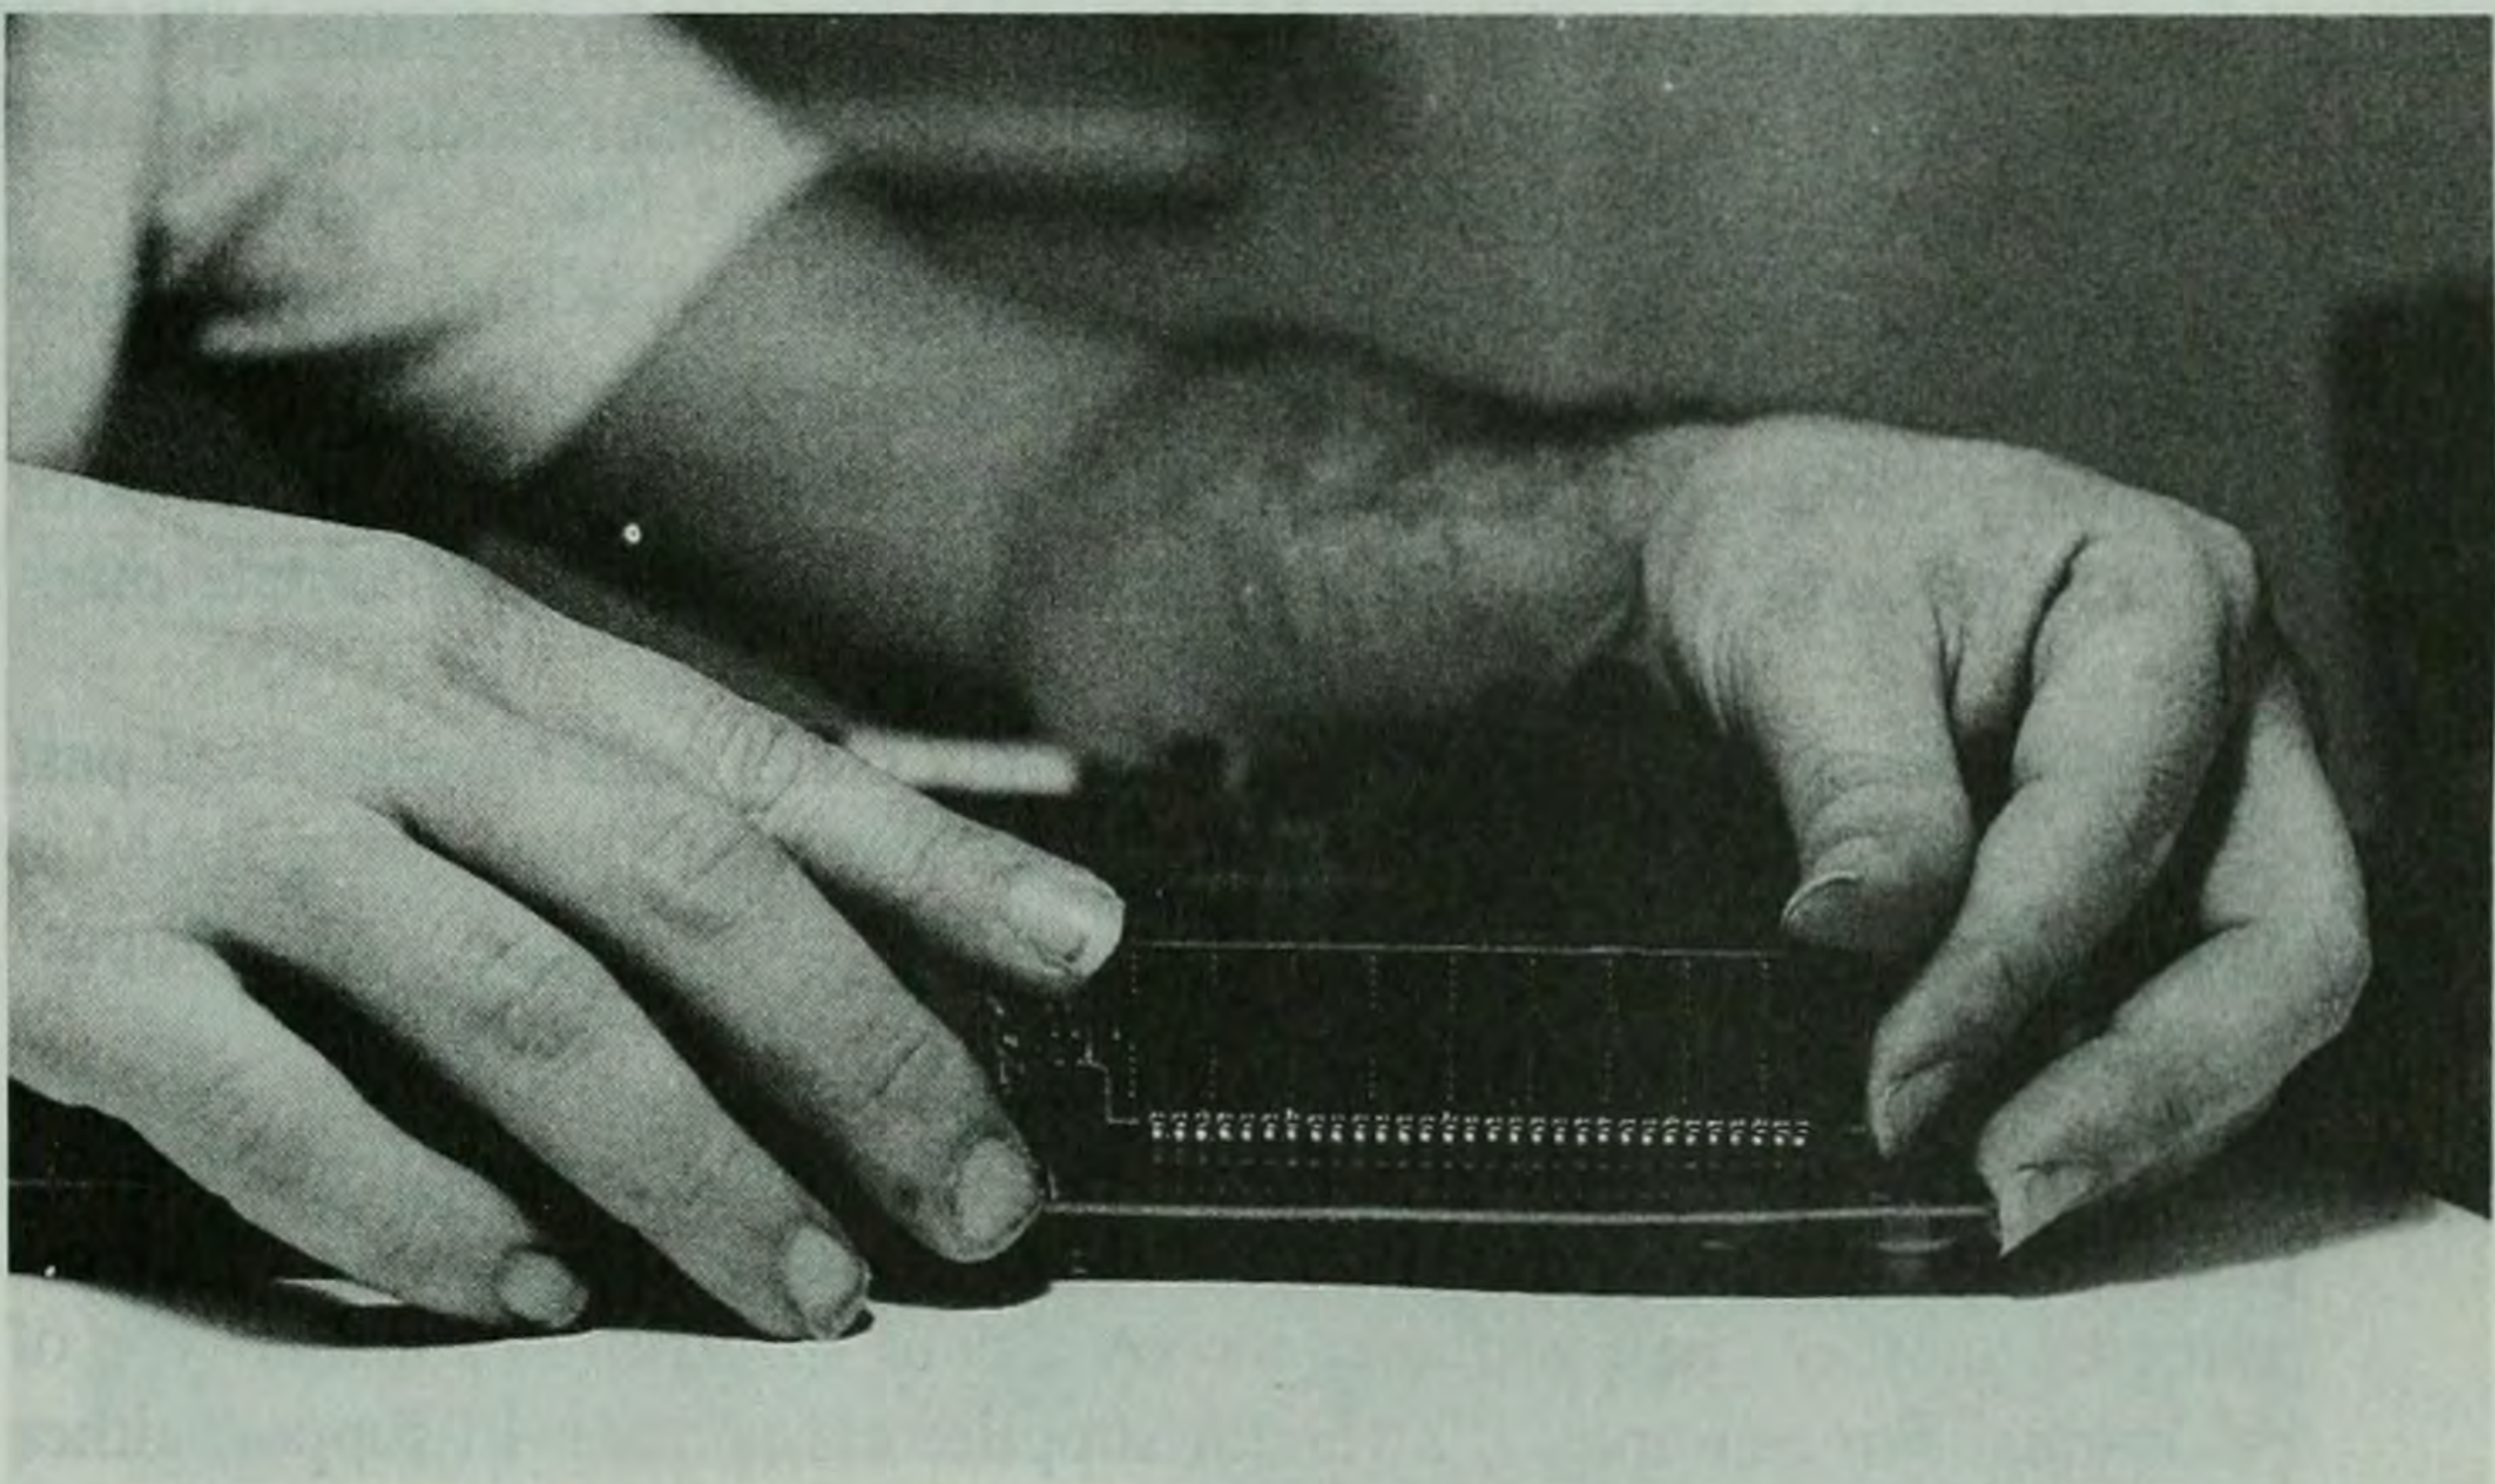

Fig. 5-7 Installing a 40-pin SIPP module.
- For SIPPs, identify the pin on the chip marked 0, and line it up with the hole marked 0 on the motherboard. Make sure that each of the forty pins is aligned correctly with its hole in the socket. It's very easy to break one pin off if you're careless. Figure 5-7 illustrates how to insert a SIPP into its socket.